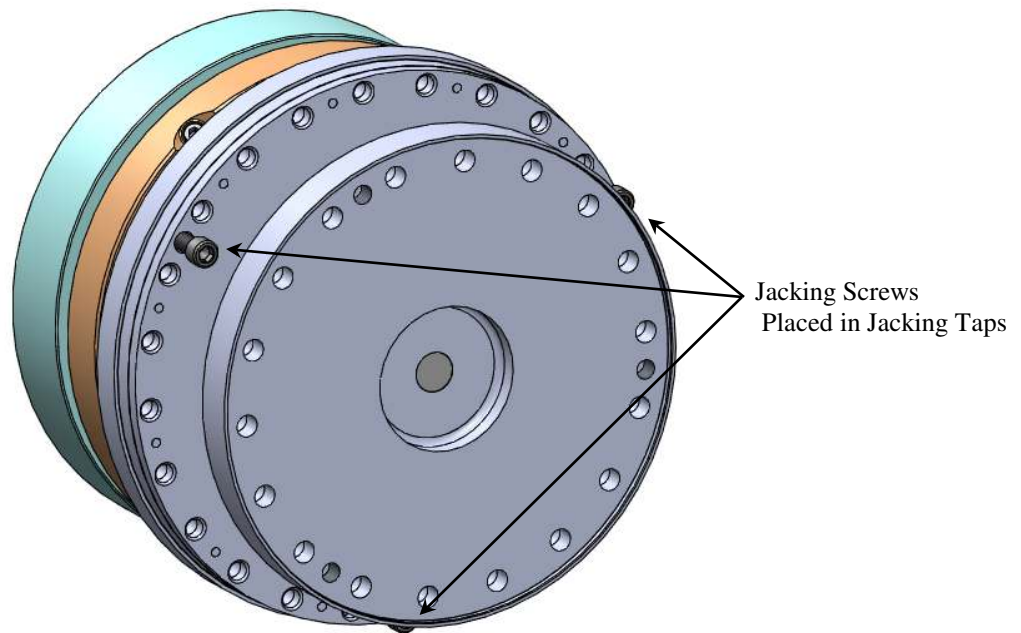

Figure 18 – Screws in Jacking Taps for Flex Assembly Removal
5.2.2 Insert (3) 5/16-24 jacking screws (SHCS, 1.25" length) supplied with the coupling in the jacking taps of the joint as shown in Figure 18.